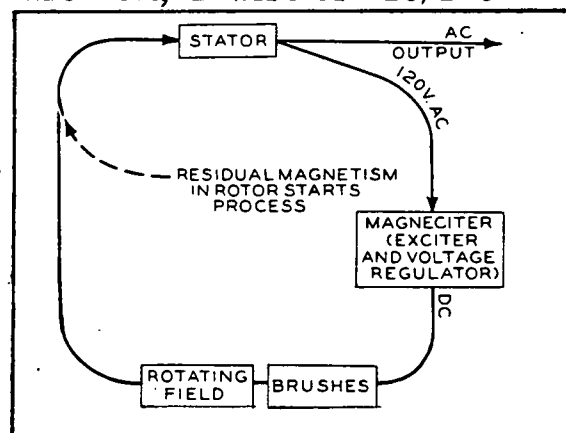

FIG. 4-1. SCHEMATIC ALTERNATOR AND EXCITER
GENERATOR: The generator is a four-pole, revolving field, externally-excited (generator mounted static exciter) type. The rotating field is coupled to the engine and rotates at engine speed. Field excitation voltage (DC) is supplied and regulated by the static exciter through slip rings and brushes to the field coils (Fig. 4-1). The alternating current output is tapped from the stator windings with the output leadwires terminated at the large terminal board in the control box. By changing the wiring connections, either 50- or 60-cycle output (engine speed must also be changed 1500-to 1600-rpm) may be obtained with 120-volt, 2-wire or 120/240-volt, 3-wire voltage rating.